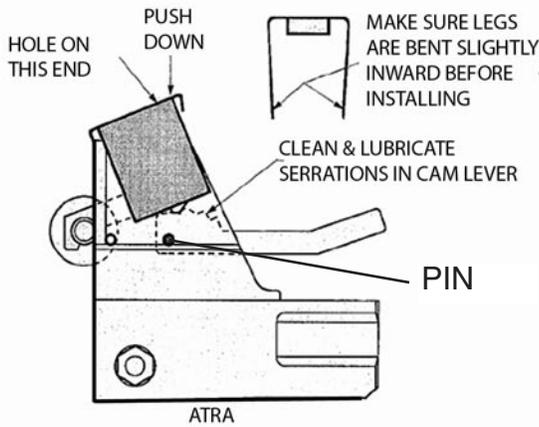

FIG. 6 INSTALLING THE PIN SHIELD
**1-** Remove the V2 Fender Housing labels. **2-** Take the Bearing Assembly and insert it into the Fender Housing as shown in Figure 2. Align the hole in the Bearing Assembly with the center hole in the Fender Housing and holding the knurled portion of the stainless steel pin insert it through the **center** hole, through the hole in the Bearing Assembly and into the hole in the opposite fender wall. **Make sure the pin is aligned with the hole in the opposite wall before pushing the knurled portion of the pin flush with the Fender Housing.** Use the flat portion of the screw driver to push the pin. **3-** Next insert the spring. Push the Bearing up towards the top of the Fender Housing then insert the spring into the cavity of the Bearing Assembly as shown in Fig.3. Using a screwdriver, depress the spring and insert it over the protruding hub in the fender housing as shown in Fig.4. **4-** Take the cam and the other stainless pin and pull down the Bearing from the top of the housing, and align the cam with the hole in the fender housing. Make sure the serration's on the cam are facing up and insert the pin into the housing hole and align the cam assembly. Push the pin in so only the Knurled portion is protruding. After making sure the pin is lined up with the second hole in the Fender Housing press flush with the housing as outlined in 3 above. **5-** With the pins pressed flush it is now time to install the Pin Shield. The Pin Shield prevents the pins from vibrating out. Make sure both legs of the Pin Shield are bent slightly inward as shown in Figure 6. With the hole in the top of the Pin Shield towards the inside of the ski, as shown in Figure 6, tip the Pin Shield as shown in the same figure and push the tab over the outside of the Fender Housing, then push the other end of the Pin Shield down until the tab **snaps** over the plastic housing.
**Instructions for Installing MARS:** Tools Required. 5 mm Allen wrench, 10 mm socket wrench, a drill with a 7.5 mm or 19 / 64" drill bit and a pair of small pliers. **1-** Remove the wheel from the Fender Housing using a 5 mm Allen wrench and a 10 mm socket wrench. Next remove the plastic thread stop, knob and top washer from the Pin Shield and pull the Pin Shield off the eye bolt so that you can place the Pin Shield over the Fender Housing as shown in Figure 8. Push the Pin Shield over the Fender Housing so that the tabs are flush with the top of the fender. The Pin Shield should also be flush with the flanges of the Fender Housing as shown in Figure 8. Using a 7.5 mm or 19 / 64" drill bit, drill a hole through the top of the fender using the hole in the Pin Shield as a guide. Remove the Pin Shield. If there are any burrs or debris from the drilling, clean up the hole and surrounding area using sandpaper, file or other de-burring tool. Make sure that the molded protrusion, which is used to hold the spring for ATRA, in the top of the Fender Housing is fully removed by the drill. If not, remove any remaining portion. **2-** If the Fender Housing has V2 labels remove them. Next take the bearing assembly with the two washers and spring positioned over the eye bolt as shown in Figure 9 and push the threaded portion up through the drilled hole in the Fender Housing. ( Make sure the bearing is facing forward, away from the ski. ) Next align the hole in the Bearing Assembly with the center hole in the Fender Housing and holding the knurled portion of the stainless steel pin insert the pin through the housing hole then through the hole in the Bearing Assembly and into the hole in the opposite fender wall. Make sure the pin is lined up with the hole in the opposite wall before pushing the knurled portion of the pin flush with the plastic Fender Housing. Use the flat portion of the screw driver to push the pin. **3-** Make sure both legs of the Pin Shield are bent slightly inward, see Figure 6. With the hole in the Pin Shield towards the inside of the ski, place the Pin Shield over the Fender Housing so that the threaded eye bolt goes through the hole in the Pin Shield. Tip the pin shield as shown in Figure 6 and push the tab over the outside of the Fender Housing as shown, then push the end of the Pin Shield with the other tab down until it **snaps** over the plastic housing. **4-** Place the plastic washer over the threaded eye bolt so it rests on top of the Pin Shield as shown in Figure 9 then take the Knob and thread it to the eye bolt. Turn the Knob clockwise until the thread of the eye bolt is about 3 / 16" or 5 mm above the top of the Knob. Holding the round plastic thread stop with the **pliers** thread the plastic unit over the bolt until the top of the plastic is exactly flush with the top of the threaded rod. ( See Figure 9B ) Next rotate the Knob counter clockwise until the Knob touches the plastic thread stop. Next reinstall the wheel.